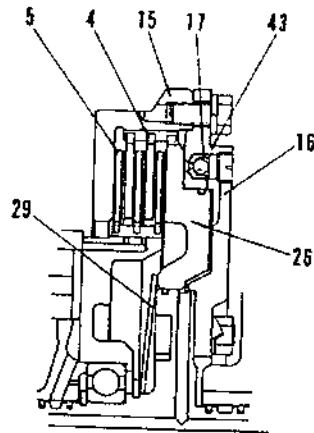

Fig2-18 No. 5 clutch
The structure of No. 5 clutch is shown in Fig. 2-18. The oil at the back space of cylinder block(16) remains under centrifugal force due to the revolution even when the clutch is disengaged. The disc spring(29) cannot ensure quick disengagement between disc and plate. This will make the clutch in a state of semi-disengagement and lead to fault during next gearshift. Ball check valve(17) functions to avoid this kind of fault.